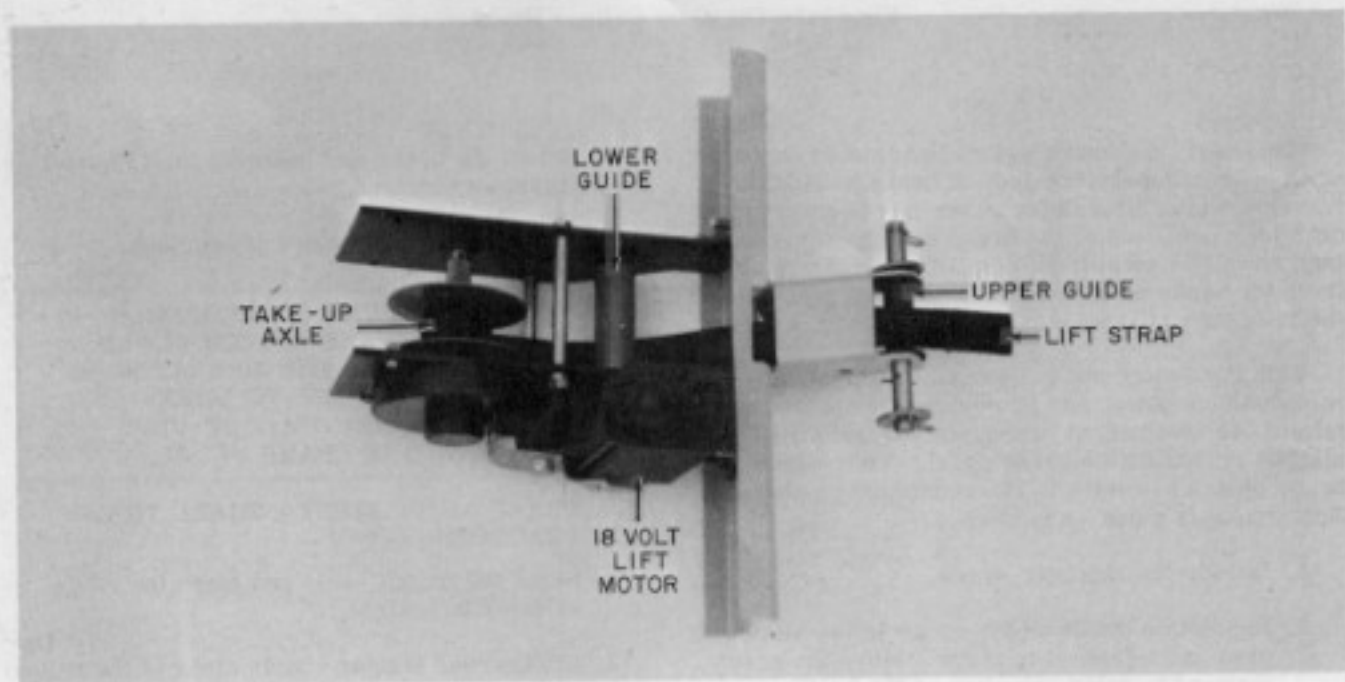

Fig. 1-20
2. Remove the four carriage bolts attaching the front bumper to the frame and lower the electric lift unit to the floor. (See Fig. 1-20.) On some models, wire slack may be insufficient to lower the electric lift unit from the tractor frame. In this case, the three wires feeding the unit must be disconnected before lowering. Be sure to keep track of connection locations.